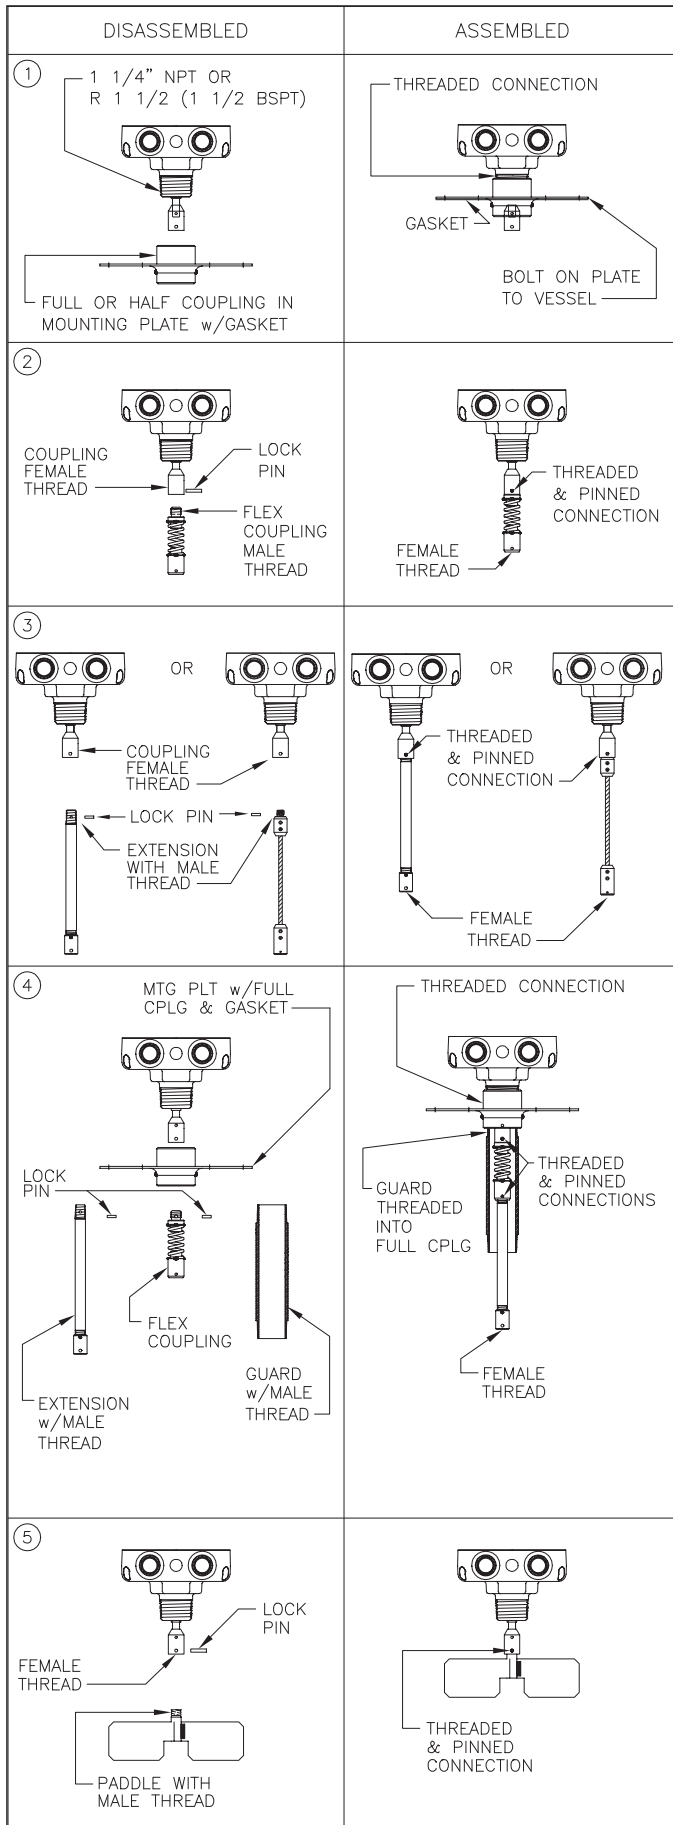

Figure 3
**Rotary Paddle Bin Monitor Preparation:** (See Figure 3)